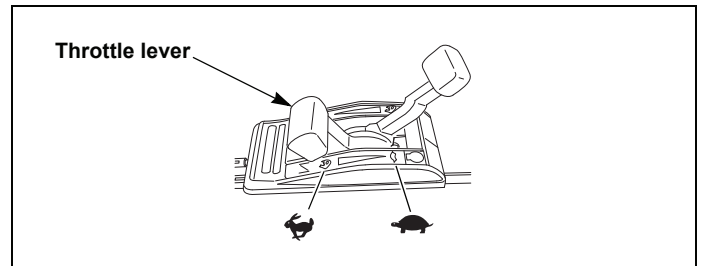

Fig. 4-25
3. Set the throttle lever to the “FAST” position. Fig. 4-25